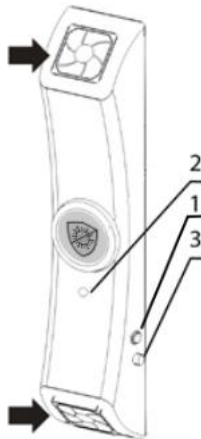

Figure 4. UVR-M overview
- 5.1.1 Plug the power cord into a grounded mains socket. Switch on the power switch (fig. 4/1).
- 5.1.2 Unit starts the recirculator automatically. Lit indicator (fig. 4/2) shows that the UV lamp is working.
- 5.1.4 **Lamp failure.** In case of UV lamp failure, unit terminates operation and does not resume until the lamp is replaced. Check the indicator (fig. 4/2) to see if the lamp is working. To replace the lamp, see **8.3**.
8.2.2 Dust filter control/replacement. The dust filters on either end of the UV-recirculator should be checked monthly and cleaned or replaced when they become clogged. To check, replace or clean the filters, simply unclip the covers (fig. 4/➡ and 5/➡), if necessary, fit a new one; otherwise rinse in water, dry, and set up existing filters. Clip covers back in place.
- 8.3 **UV-lamp replacement.** Replacement must be performed only by qualified and specially trained personnel. UV lamp replacement is necessary after lamp stops functioning or at the end of manufacturer specified lifetime. Use the indicator in the centre of recirculator (fig. 4/2 or 5/8) to check UV lamps inside the recirculator. If the indicator is alight while the switch is ON, then the UV lamps are functioning. If it is not, replace the lamp, single lamp in case of **UVR-M**, both - in case of **UVR-Mi**.
- 8.4 **Fuse replacement.** Disconnect the unit from the mains and unscrew the fuse holder cap (fig. 4/3 or 5/10). Check the fuse and replace, if necessary, with a correct one: